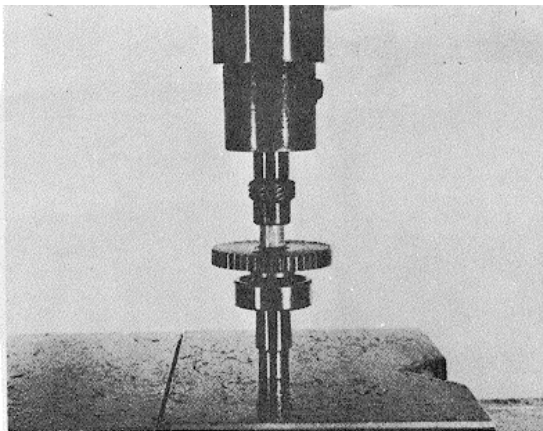

Fig. 5-54, F542. Pressing tachometer gear on shaft
3. Lubricate shaft and bore before pressing gear pump drive coupling or rear tachometer drive gear, when used, on shaft; press against governor drive gear. Fig. 5-54.